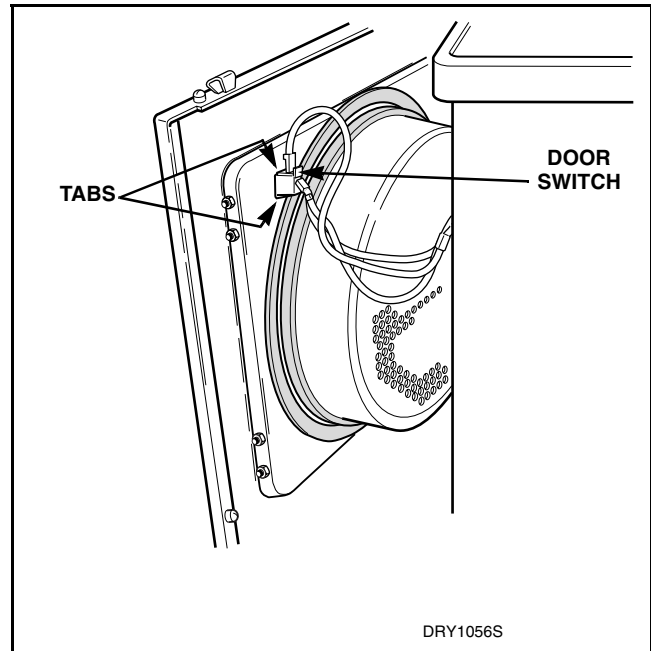

Figure 18
- l. Disconnect wires from door switch. Refer to *Figure 18*.
- i. Disconnect wires from door switch. Refer to *Figure 18*.
- c. Disconnect wires from door switch. Refer to *Figure 18*.
- d. Depress tabs on top and bottom of switch and push out of front panel. Refer to *Figure 18*.
- d. Depress tabs on top and bottom of catch and push out of front panel. Refer to *Figure 18*.
- Disconnect wires from door switch. Refer to *Figure 18*.
- (3) Disconnect wires from door switch. Refer to *Figure 18*.